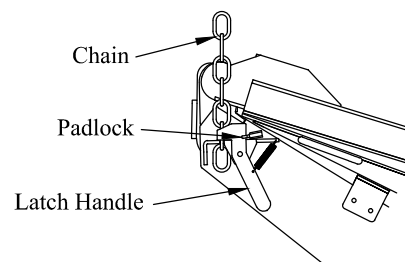

Figure 21: Chain latch and padlock location.
9. **Raise** and **Latch** the liftgate latch chain (Figure 21).
10. **Install** the padlock into the hole in the latch handle (Figure 21).